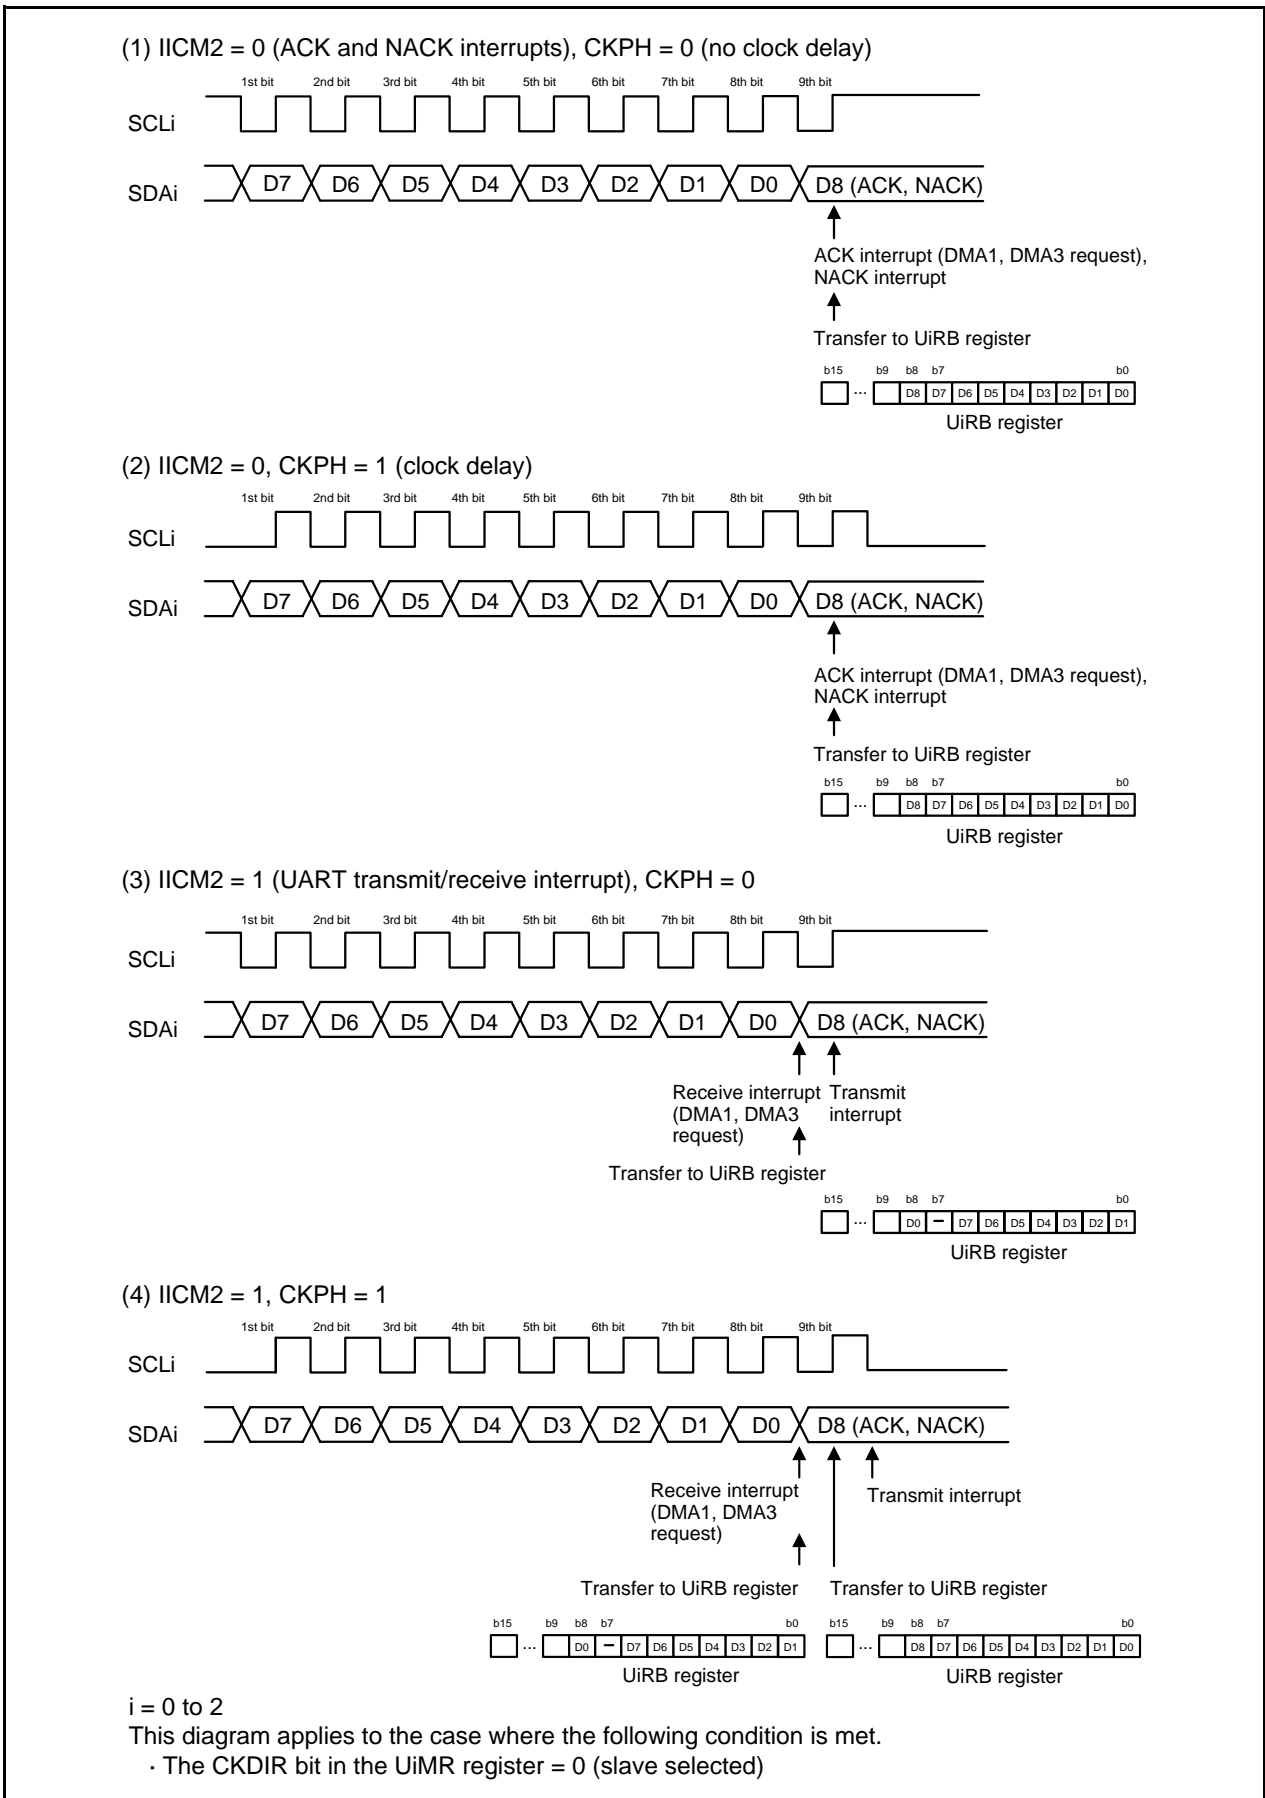

Figure 13.28 Transfer to UiRB Register and Interrupt Timing
6. Refer to Figure 13.28 “Transfer to UiRB Register and Interrupt Timing”.
The transfer clock is used to transmit and receive data as is shown in **Figure 13.28 “Transfer to UiRB Register and Interrupt Timing”**.